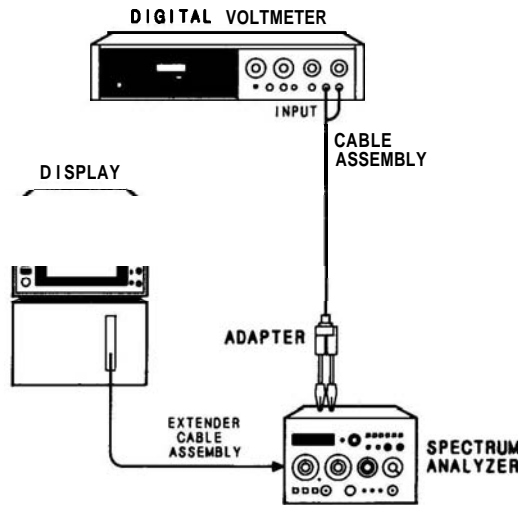

FIGURE 5-1. POWER SUPPLY CHECKS AND ADJUSTMENTS TEST SETUP
- 2. Connect equipment as shown in Figure 5-1. Install Frequency Control Assembly A7 on extender board and connect digital voltmeter to +14.5V test points A7TP3.